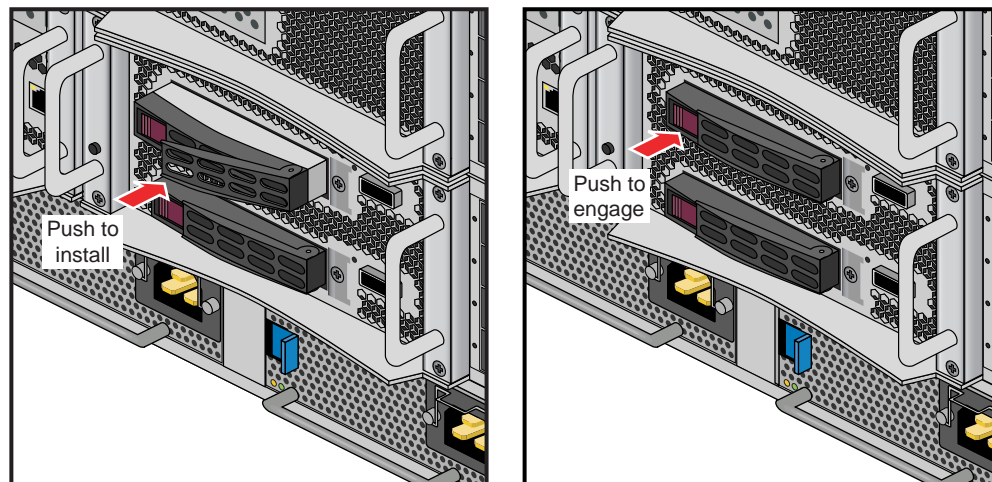

Figure 6-10 Replacing the UV 2000 System Disk Example
1. Install a drive (pre-mounted on sled) into the dual-disk drive riser blade with the drive assembly oriented as shown in Figure 6-10 on page 77.